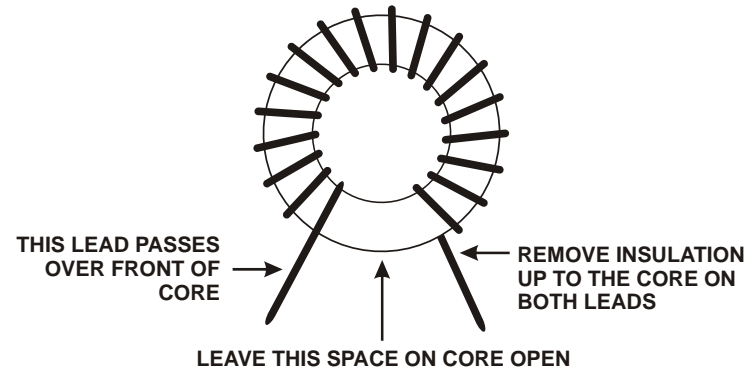

Figure 18. Winding Inductor L3.
- “Sew” the long end of the wire through the hole in the core for a total of 18 turns. Match the winding direction shown in Figure 18. Count one “turn” each time the wire passes through the center of the core. There are no “half” or “quarter” turns when winding a toroid.
- Spread the turns around the core so the finished result looks like Figure 18.